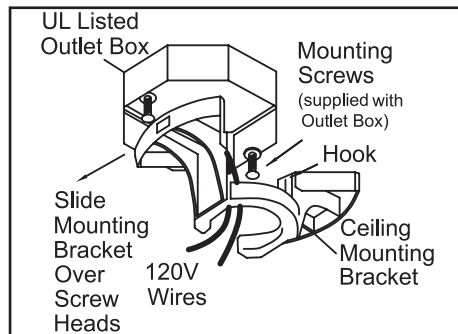

Figure 10
1. Pass the 120-volt supply wires through the center hole in the ceiling mounting plate as shown in Figure 10.
2. Install the ceiling mounting plate on the outlet box, by sliding the mounting plate over the two screws provided with the outlet box. When using the close-to-ceiling mounting, it is important that the mounting plate be level. If necessary, use leveling washers (not included) between the mounting plate and the outlet box. Note that the flat side of the mounting plate is toward the outlet box (Figure 10).